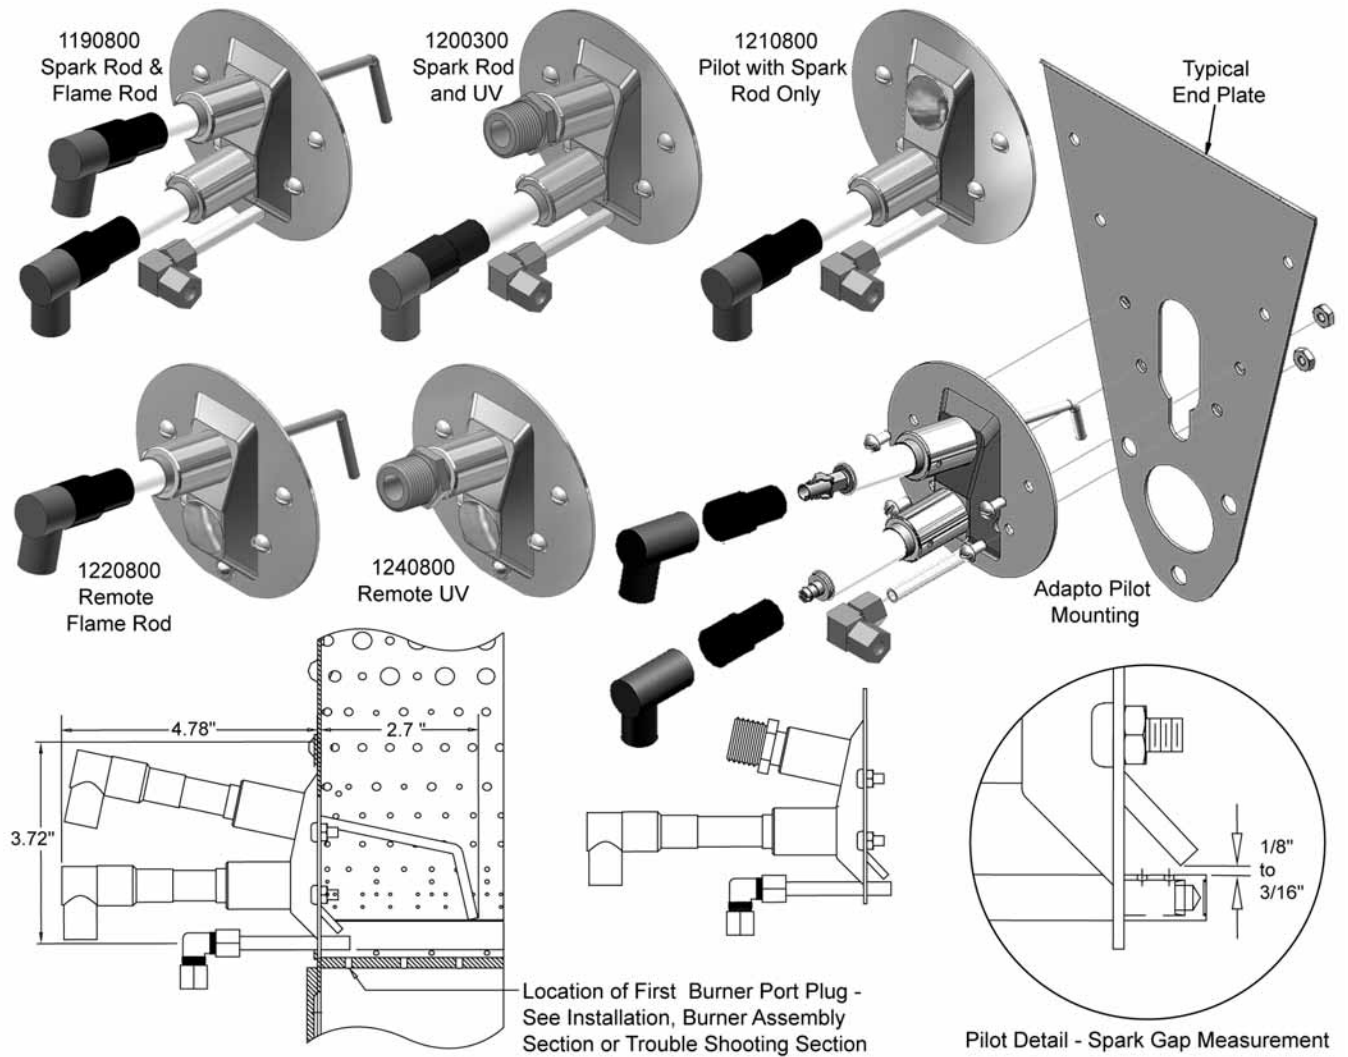

Figure 8 - Pilot Configuration
For a high fire start system the first gas port next to the pilot might require to be blocked using furnace cement to prevent potential pilot blow outs and flame failures. See page 7 (Burner Assembly) and see Figure 8 - *Pilot Configuration*.
- IV.** If the pilot fails as main gas valves open, the first adjacent gas port hole (next to the pilot) should be plugged with furnace cement. See Figure 8 - *Pilot Configuration*.